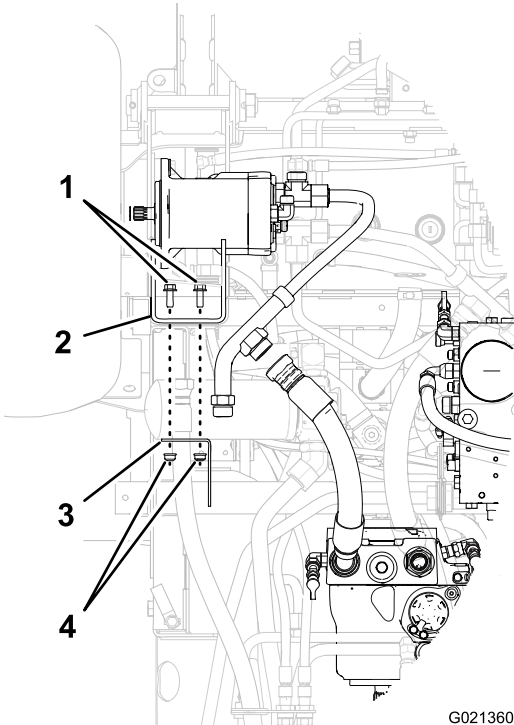

Figure 5
3. Remove the 2 bolts and 2 flange nuts that secure the support bracket to the chassis bracket, and remove the support bracket (Figure 5).